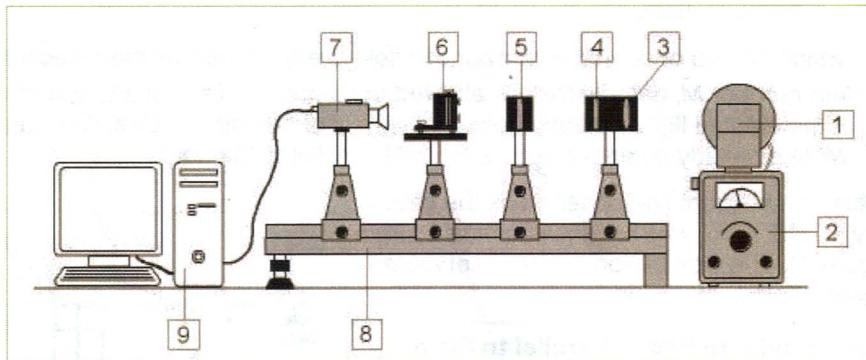

Figure 4
Figure 4 shows the arrangement of the components of the Zeeman Effect Apparatus.
- Mount the four riders onto the optical bench and fit the lens and polarization filter, étalon support table, interference filter, and CCD camera onto the riders as shown in *Figure 4*.